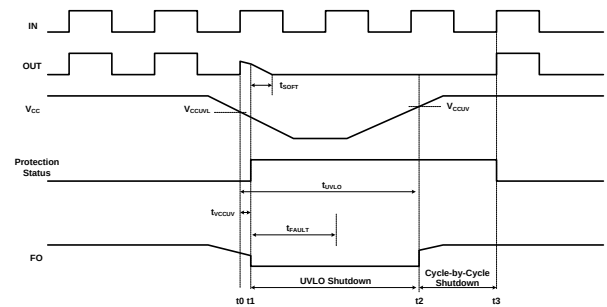

Figure 46. Timing chart of $t_{UVLO} > t_{FAULT}$ condition
Gate drive output is softly turn-off and Fault-Out (FO) stays in low state until fault condition has been removed when the duration of under-voltage condition (t_{UVLO}) longer than fault output (FO) time (typical 110 μ s) as shown in Figure 46. The fault output (FO/SD) and gate driver output goes to low state after under-voltage filtering time (t_{VCCUV} , typically 10 μ s) when the V_{CC} is below the under-voltage lockout low threshold voltage.